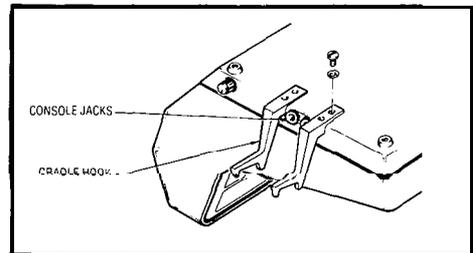

Fig. 302-1
- [2C] Position one cradle hook as shown in Fig. 302-1. (Cradle hook may be placed at other end of console if preferred)
- [2E] Position remaining cradle hook (Fig. 302-1)
(FIG. 302-1)